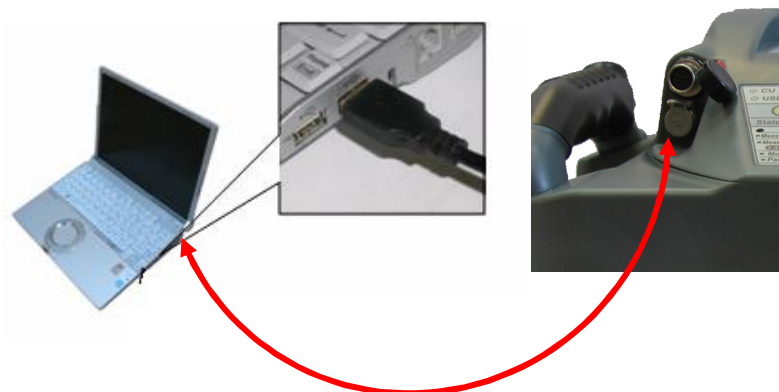

Fig. 5.18 GPR detector and laptop connection diagram to copy the saved files
- connect your laptop to the GPR detector by USB cable available in the GPR detector as shown in Fig. 5.18;